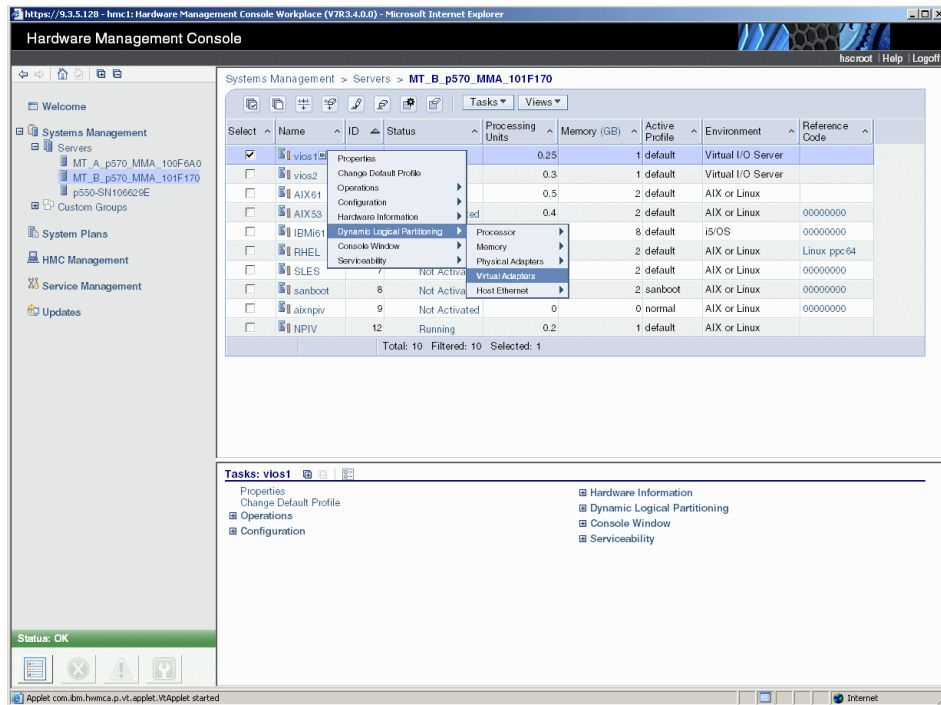

Figure 2-43 Add Virtual Adapter to vios1 partition
2. Add a virtual Fibre Channel server adapter to the Virtual I/O Server partition. In the HMC select your managed server and the Virtual I/O Server partition `vios1`. Click **Tasks** → **Dynamic Logical Partitioning** → **Virtual Adapters** as shown in Figure 2-43.